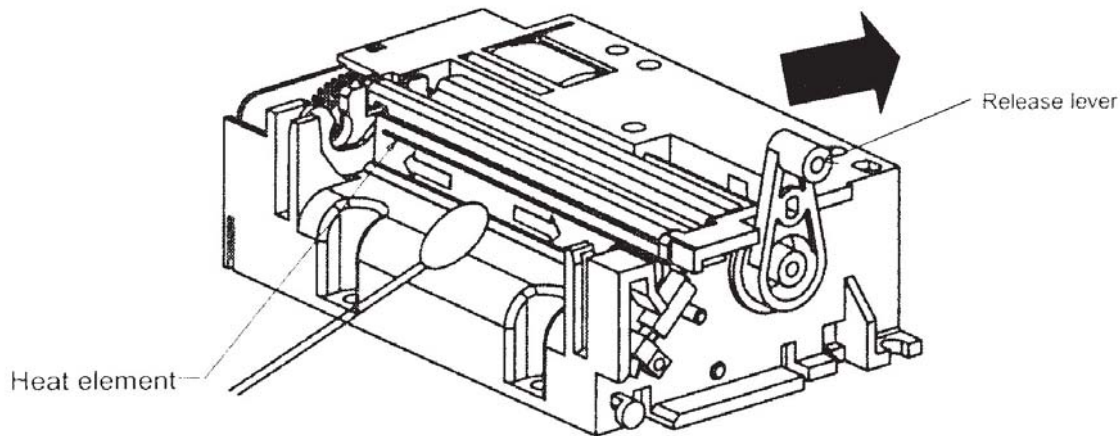

Figure 11-7
1. Turn over the lever to the direction of the arrow in figure 11-7. Pull up the platen after making sure that the platen is released from the lever. (Open state)